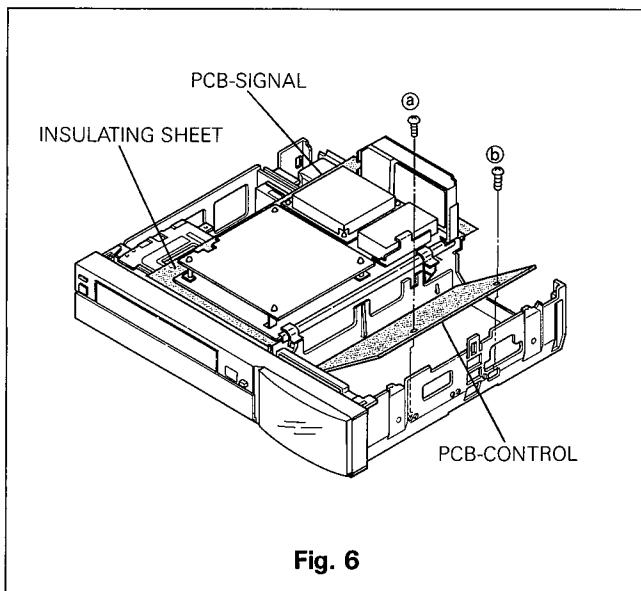

Fig. 6
- D. Use the insulating sheet under the PCB SIGNAL when servicing it by turning it inside out as shown in Fig. 6.
- A. Remove the bottom cover (Refer to page 1, item 2) and the service of the PCB CONTROL will be available.
- b. Remove the two screws (Ⓐ and Ⓢ) retaining the PCB CONTROL as shown in Fig. 6.